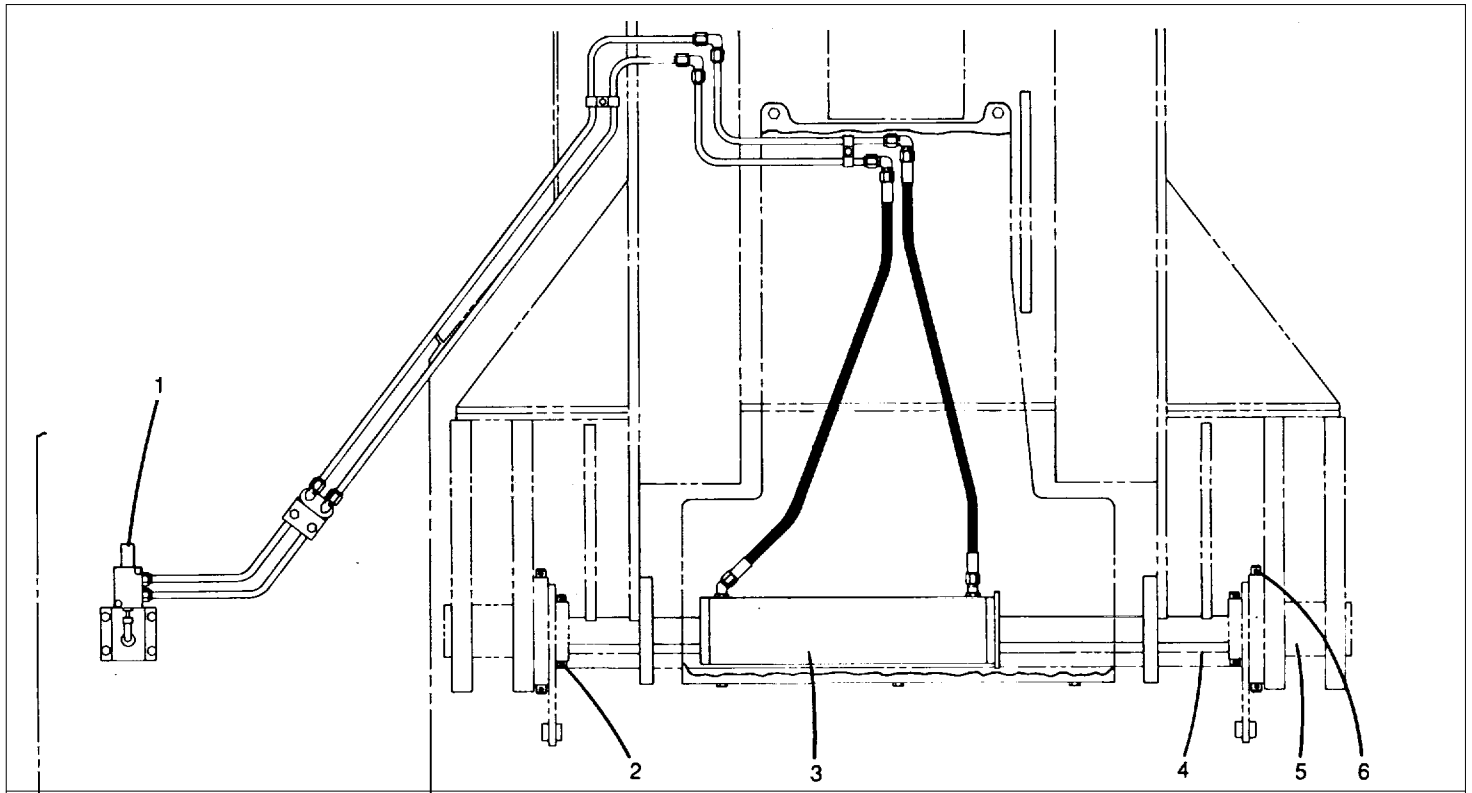

Fig. 1
1.1 Boom Foot Pin Cylinder Removal (Fig. 1)